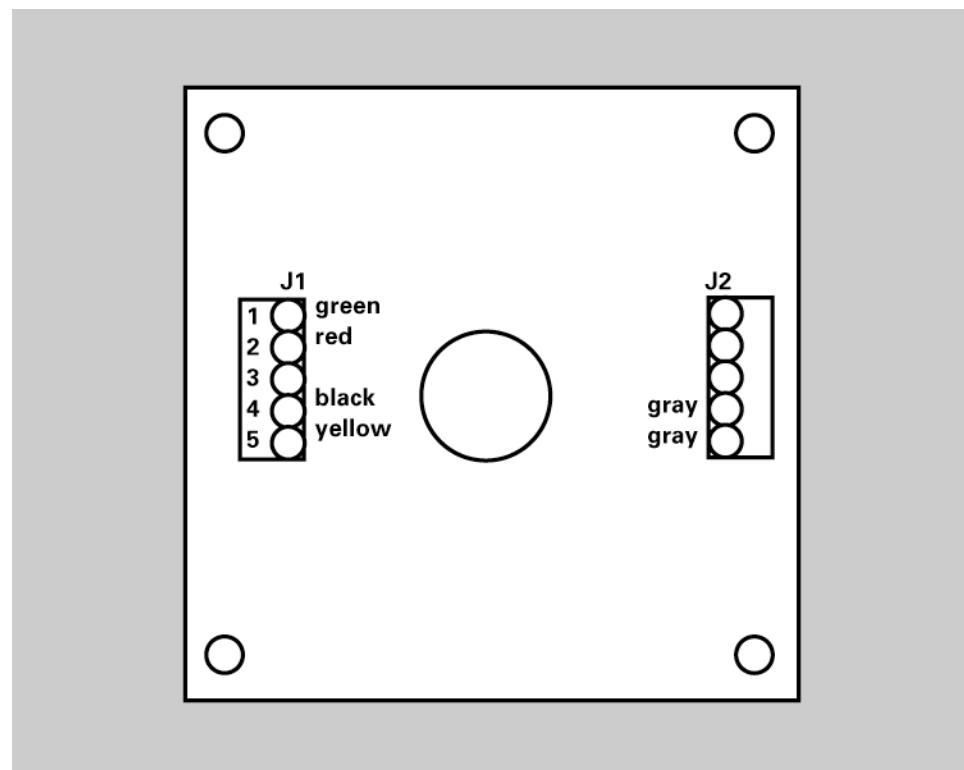

Figure 40
3. Connect the cable conductors on the opposite end of the cable to terminal block J1 on the PCB in the switch enclosure as shown in *Figure 40*.
10. Connect the cable conductors to terminal block J1 on the PCB of switch enclosure #2 as shown in *Figure 40* (the same as the single switch configuration).